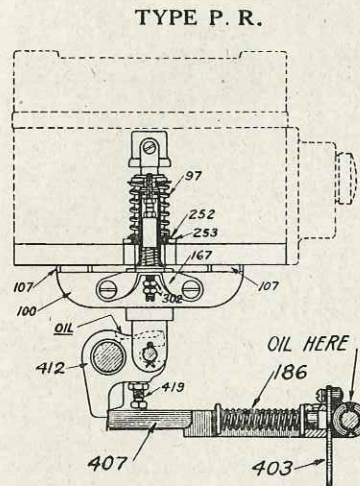
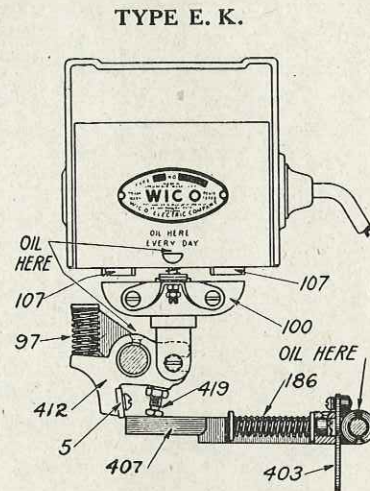

Figure 14
Figure 15
The numbers on Figures 14 and 15 will be used in the instructions on adjusting Wico Magnetos. Figure 14 is a cut of the type P.R. showing the position of the trip finger No. 407 and armature No. 100, just before the contact between armature No. 100 and the face of the cores No. 107 has been broken. Figure 15 is cut of type E.K. showing position of the trip finger No. 407 and armature No. 100 after the contact between armature No. 100 and the face of the cores No. 107 has been broken, also at the point where trip finger No. 407 trips off of rocker arm No. 412 causing armature No. 100 to return to its original position.
(See Figure 15)
Trip the armature (100) from its contact with the cores (107) and insert a strip of metal 7-64" thick between the armature and the face of the cores. Move the push rod slowly until the latch of the trip finger reaches the rocker arm. The edge of the latch should then just engage the edge of the lip of the rocker arm, and the adjusting screw (419) should be bearing on the top side of the latch, (see figure 15) so that the least further movement of the push rod will cause the latch to slip off the edge of the rocker arm.